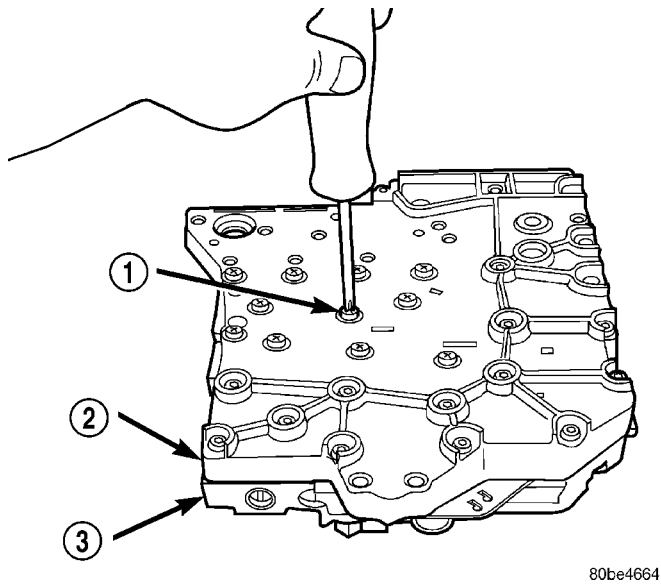

Fig. 322 Remove Valve Body to Transfer Plate Screws
(6) Remove Valve Body to Transfer Plate screws (Fig. 322).